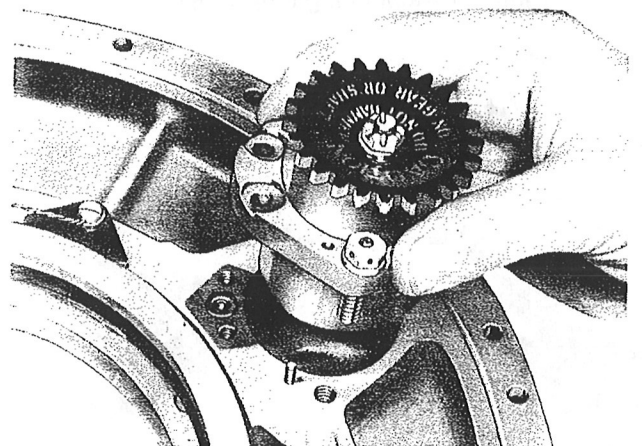

Figure 69—Removing the Pump
(18) Cut the safety wire and remove the bolts which secure the pump to the housing. Withdraw the pump. (See figure 69.)